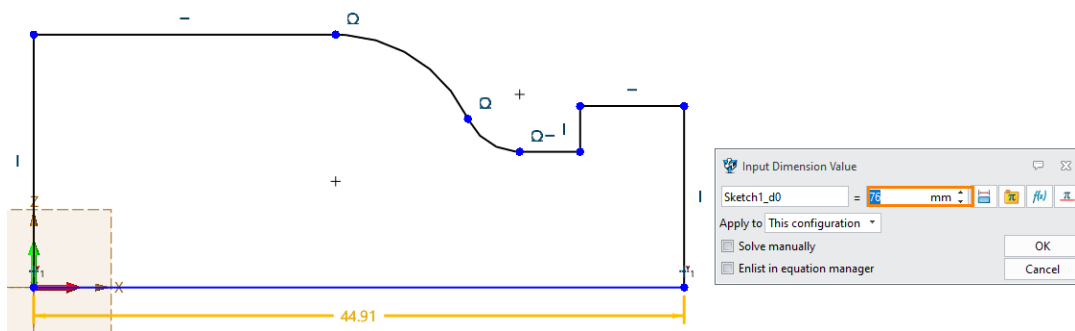
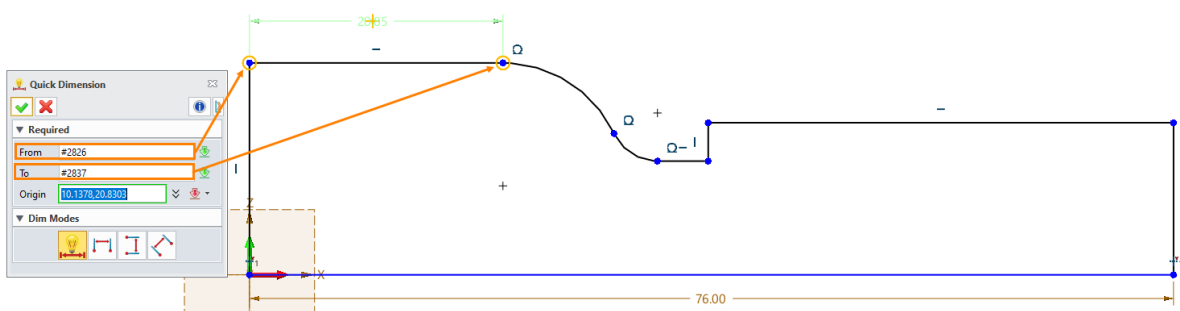

Figure 77 Defining the Value of the Dimension
Figure 78 Specifying the Dimension with Points
STEP 07 Click the graphic area, input the value of the length of the line, and click **OK**. The result is shown in Figure 77. Or you can specify the dimension with two points, as Figure 78 shows.